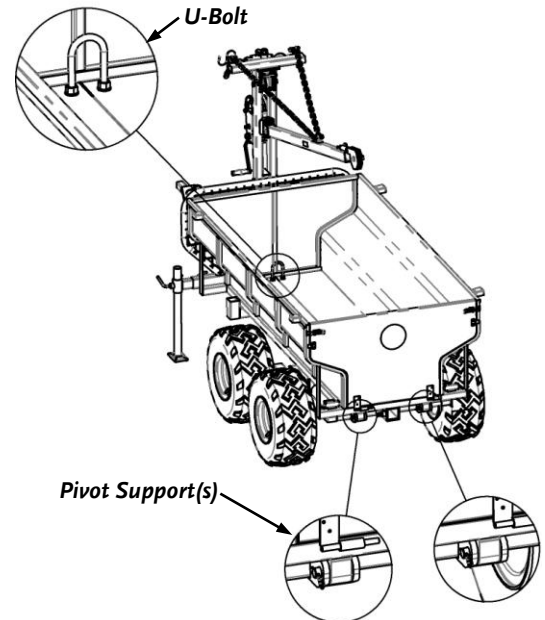

Figure 46
4. With the assistance of **at least** one other person, turn the Bed back over and place the Bed on the Trailer in the orientation shown in (**Figure 46**), with the U-Bolt at the front of the Trailer and the Dumping Pivots on the Bed placed between the Pivot Supports on the Rear Bed Support.